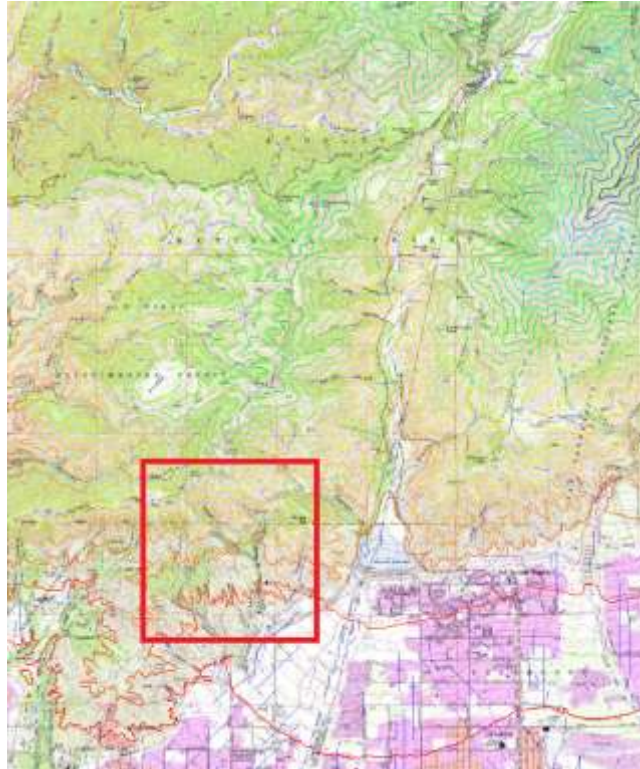

Figure 1 Zoom area
16. Use the **Zoom**  tool to view the area shown in the Figure 1, below.